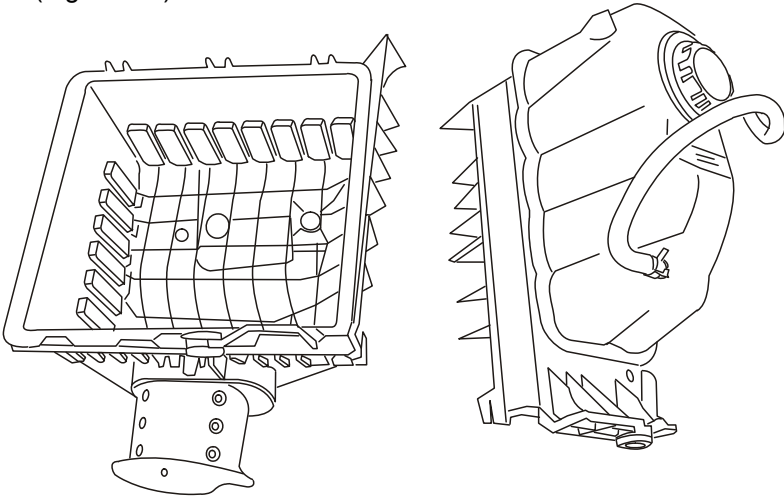

Figure 1.1
- Cut to separate the air box from the coolant expansion bottle (Figure 1.1).